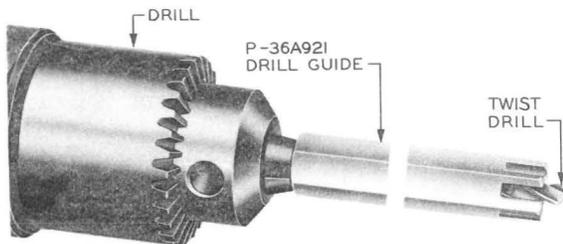

Fig. 1 - Mounting Drill Guide and Drill for Removing Rivets
3.01 Preparation of Drill (When Replacing Springs on Channel Units): Insert a 5/32" twist drill loosely into the drill chuck. Place the P-36A921 drill guide over the drill as shown in Fig. 1 with the guide touching the chuck. Set the drill securely in the chuck with the tip of the drill extending 1/8" beyond the end of the drill guide.